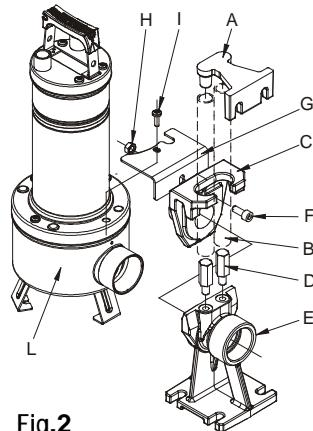

Fig.2
- 4.6 Connect the delivery pipe or hose directly to the pump mouth. If the pump is used in fixed installations it is advisable to connect it to the pipe with a coupling so as to facilitate disassembly and reinstallation. If a hose is used, fit a threaded hosetail on the pump mouth. Wrap the thread with suitable material to ensure an effective seal (teflon tape or similar). For fixed installations we advise the use of the lifting device DSD2 (available on request - Fig.2) to facilitate pump maintenance operations. When fitted between the pump delivery aperture and the pipe, it avoids having to remove the delivery pipe during maintenance jobs. The DSD2 device is composed of 8 parts:
Reposition the slide/pump assembly on the foot (Fig.2).